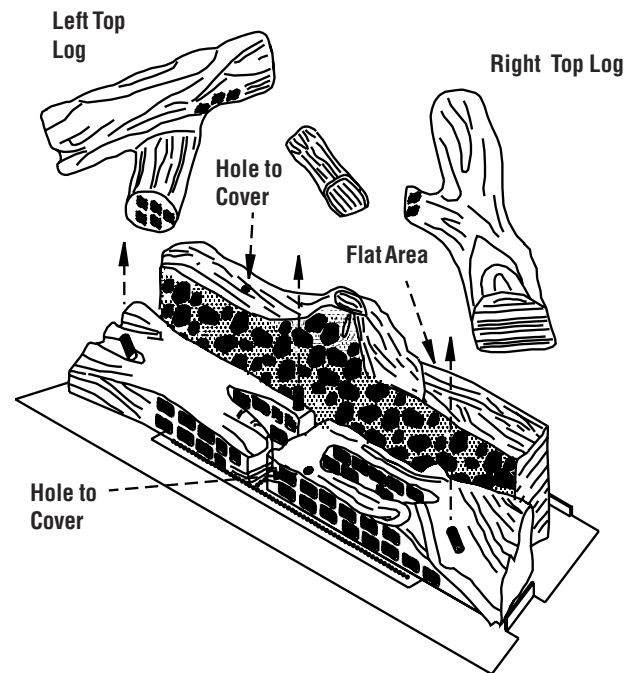

Figure 12
- 6) The small straight top twig (3021) should be turned so the black flat end is turned to the rear. Slide the holes in the bottom of this twig over the right peg on the left front log and the hole on the right front log. See **Figure 12**.
- 7) The left top log (3019) should be positioned as shown in **Figure 12**. Slide the holes in the bottom of this log over the hole in the left end of the rear log and the peg in the left end of the left front log. The right top log (3020) should be positioned as shown in **Figure 12**. Slide the holes in the bottom of this log over the peg in the right end of the right front log and rest it on the flat spot on the rear log.